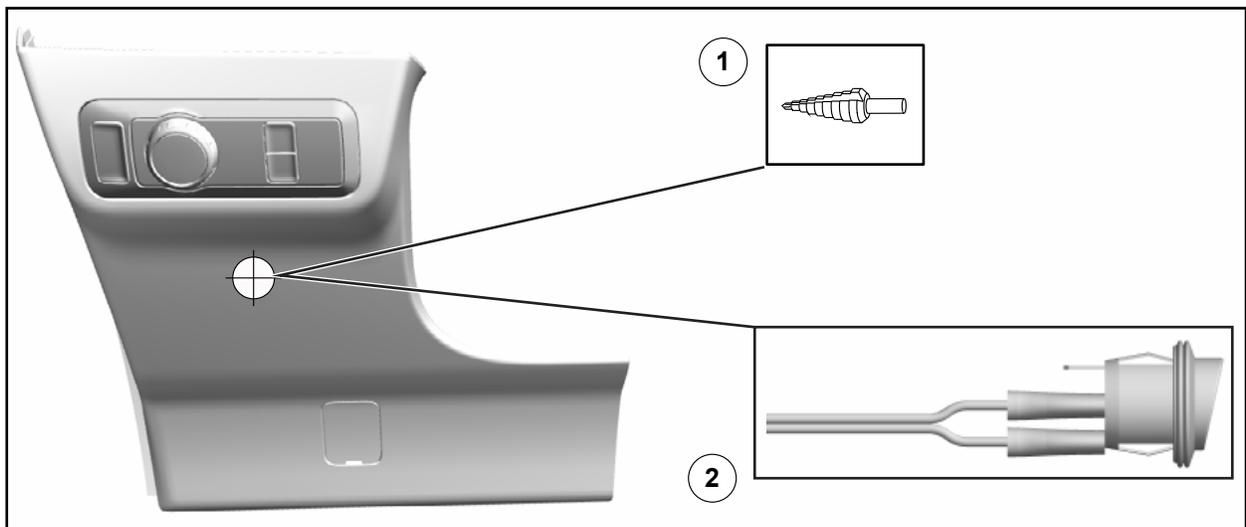

FIGURE 39
39. Install the lightbar switch. See Figure 39.